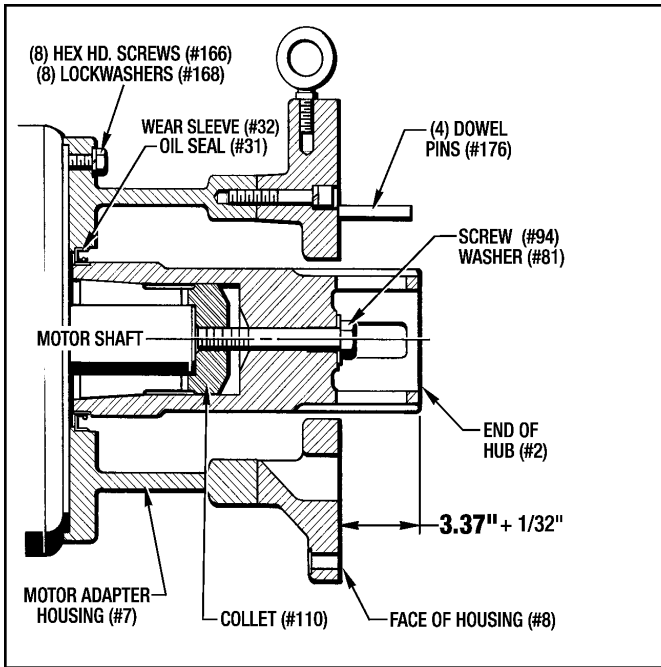

Figure 3.6 - Installing Motor Adapter Housing (#7) and Positioning The Hub (#2) and Collet (#110) on The Motor Shaft
- Remove the End Housing (#9) from the Housing (#8) by taking out the (8) Screws (#148) and (8) Lockwashers (#127). Pull the End Housing (#9) away from the Housing (#8).
- Remove the whole Brake Stack from the Housing (#8) by unscrewing the (4) Shoulder Bolts (#138) in the Drive Plates (#12). **Do not remove these (4) Shoulder Bolts (#138) from the Brake Stack.**
- Set the Brake Stack on a work bench with the threads of the (4) Shoulder Bolts (#138) pointing up.
**IMPORTANT - Make sure you keep the Brake Stack in exactly the same order as they were assembled. There are (2) Separator Springs (#17) between each Drive Plate (#12). Be careful so not to lose track of them.**
- Attach the Motor Adapter Housing (#7) and Housing (#8) to the motor mounting face with the (8) Hex Hd. Screws (#166) and (8) Lockwashers (#168). **Torque to 120 Lb. Ft.**
- Position the Hub (#2) as shown in *Figure 3.6*. Measure the distance from the end of the Hub (#2) to the face of the Motor Adapter Housing (#7). This distance should be **3.37" + 1/32"**. (*Figure 3.6 is on the next page*)